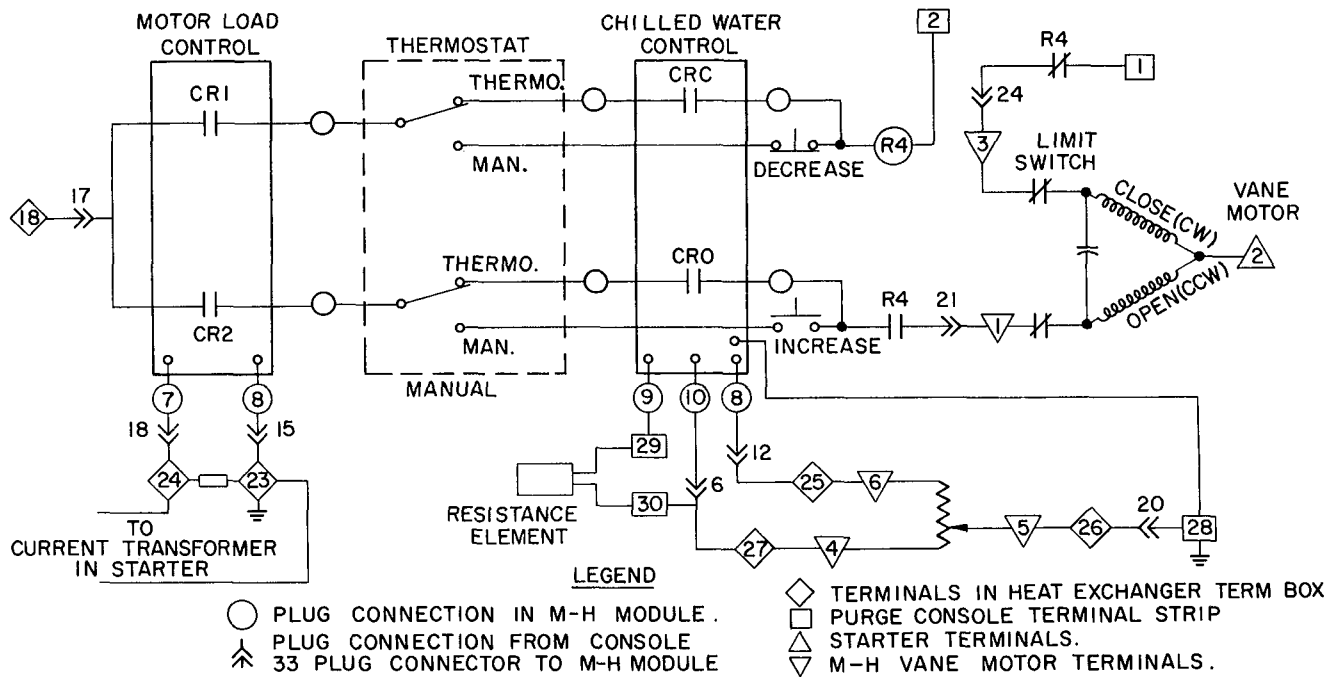

Fig. 5-3 - Honeywell Control Diagram
With the compressor running and the start-up sequence completed as described in previous paragraphs, the chilled water is controlled by a resistance element sensing the leaving water temperature. A rise in temperature sends a signal to the chilled water amplifier to position the prewhirl vanes towards OPEN. The chilled water resistance element is part of a bridge circuit and any unbalance in the bridge (caused by a resistance change due to temperature change) is detected by the amplifier. (See Fig. 5-3 or 5-4 for schematic representation of the chilled water temperature control operation.)
**Honeywell Control** - (See Fig. 5-2 and 5-3.) If the water temperature is within 1/2 F of the set point, the relay contact CRC will be closed and CRO will be open. Under this condition, neither the OPEN winding nor the CLOSE winding of the capacitor start vane motor will be energized, and the vanes will remain in a fixed position (Fig. 5-3). If the water temperature rises above the set point, relay CRO pulls in, energizing the OPEN winding. The vanes will open until a new equilibrium position is reached. Relay CRO will then open, de-energizing the OPEN winding and stopping the vanes.
Motor overload is detected by a current transformer and resistor in the starter. An increase in current flow causes a change in voltage drop across the resistor. The magnitude of change is increased by the electronic amplifier. This voltage signal at terminals 23 and 24 should be approximately one-half volt when the motor reaches full load amperage. See Fig. 5-3 for schematic representation of the motor overload control operation as described below.